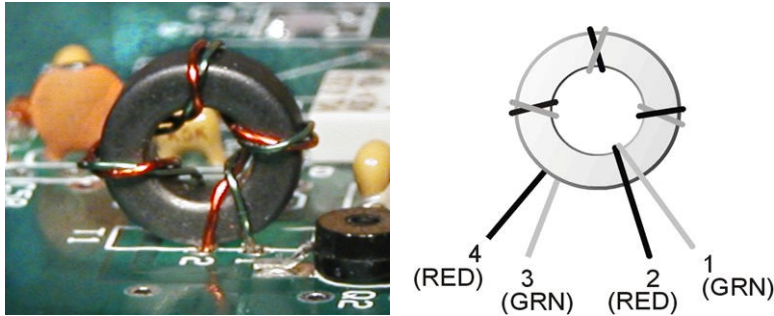

Figure 23. Installing T1.
- Wind 4 turns of the twisted pair on the FT37-43 toroid core as shown in Figure 23. Each time the wire passes through the center of the core counts as one turn, so verify that the wires pass through the toroid four times. Spread the turns around the core as shown.
Insert the tinned leads in the holes on the PCB and position the toroid as shown in Figure 23. Be sure the correct lead goes to each hole. Use a magnifier to check the following: